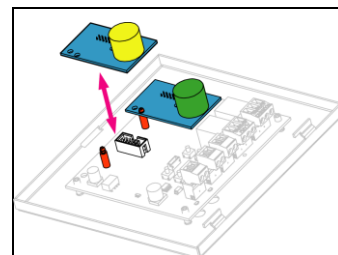

Figure 11: Sensor Module Replacement.
3. Unplug the failed sensor module by pulling the sensor module firmly away from the main board (Figure 11).
4. Plug the new sensor module into the vacant location: press the module firmly until the nylon standoff (highlighted in tan in Figure 11) at the bottom-left side of the board has been seated properly.